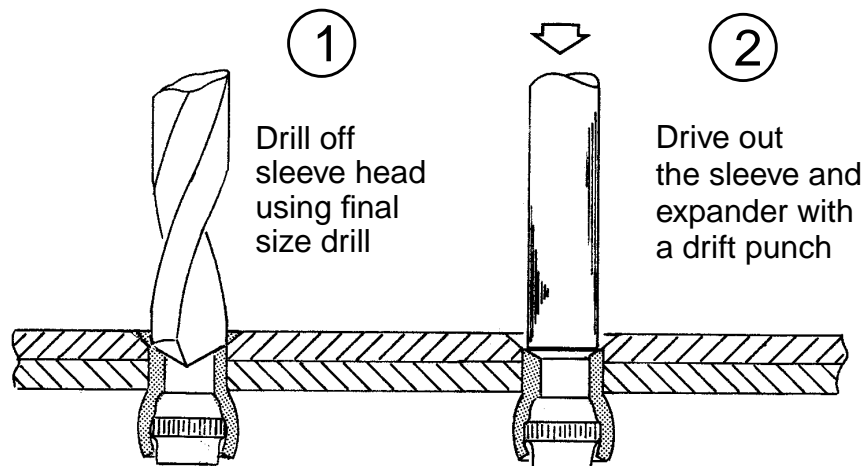

Figure 9 - Removal of Blind Nuts
5.8.1 If necessary, installed blind nuts may be removed as follows (see Figure 9):